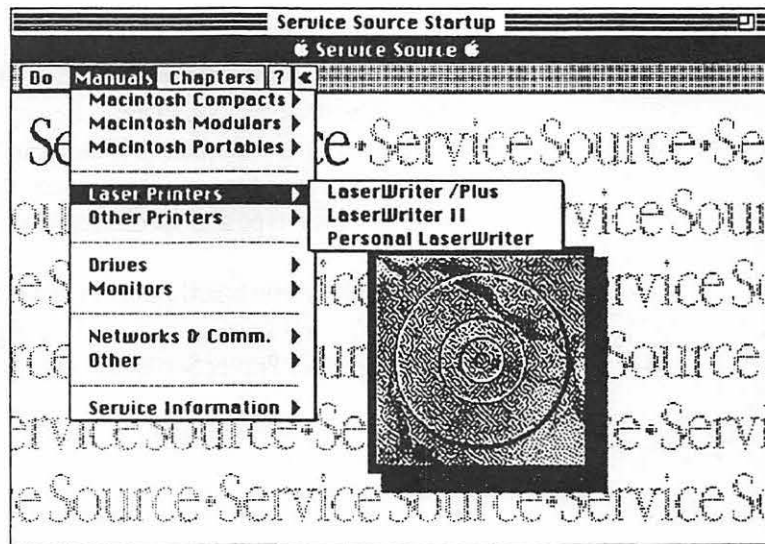

Figure 2-6
1. From the *Service Source* Main Menu, choose **Laser Printers** from the Manuals menu. From the Laser Printers submenu, choose a LaserWriter family as Figure 2-6 shows.